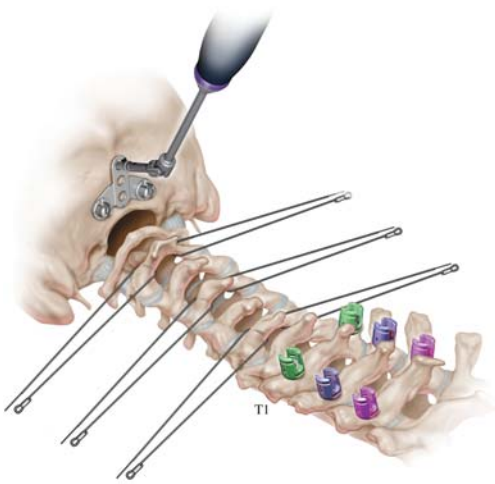

Figure 16
- Utilizing the 2.5mm Self-Retaining Screwdriver, insert the selected 4.5mm Outer Diameter Occipital Bone Screw and tighten provisionally. For difficult anatomy, a Minimal Access Self-Retaining Screwdriver is available (Figure 16).